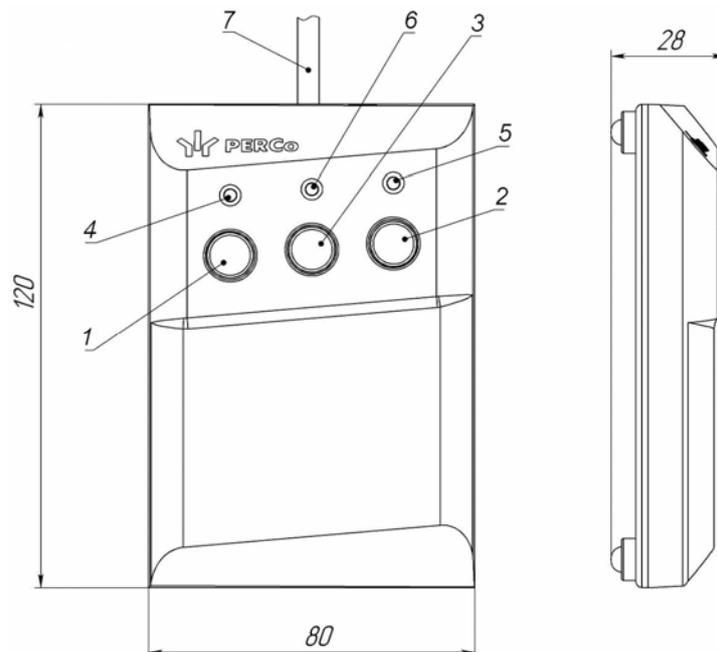

Figure 4. RC-panel design and overall dimensions
RC-panel (9) is connected to the IP-Stile housing with an RC-panel cable. RC-panel design and overall dimensions are shown in Figure 4.